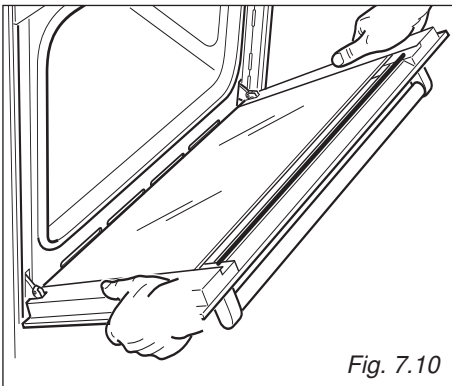

Fig. 7.10
- Hold the door as shown in fig. 7.10.